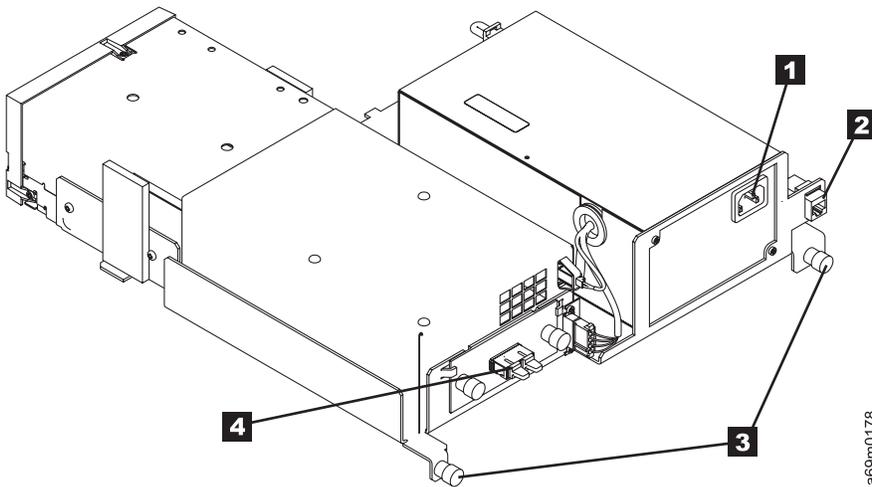

Figure 110. Drive Tray Assembly – LTO Fibre
4. Refer to Figure 110 on page 588. Unplug the AC power cable **1** from the back of the drive tray.